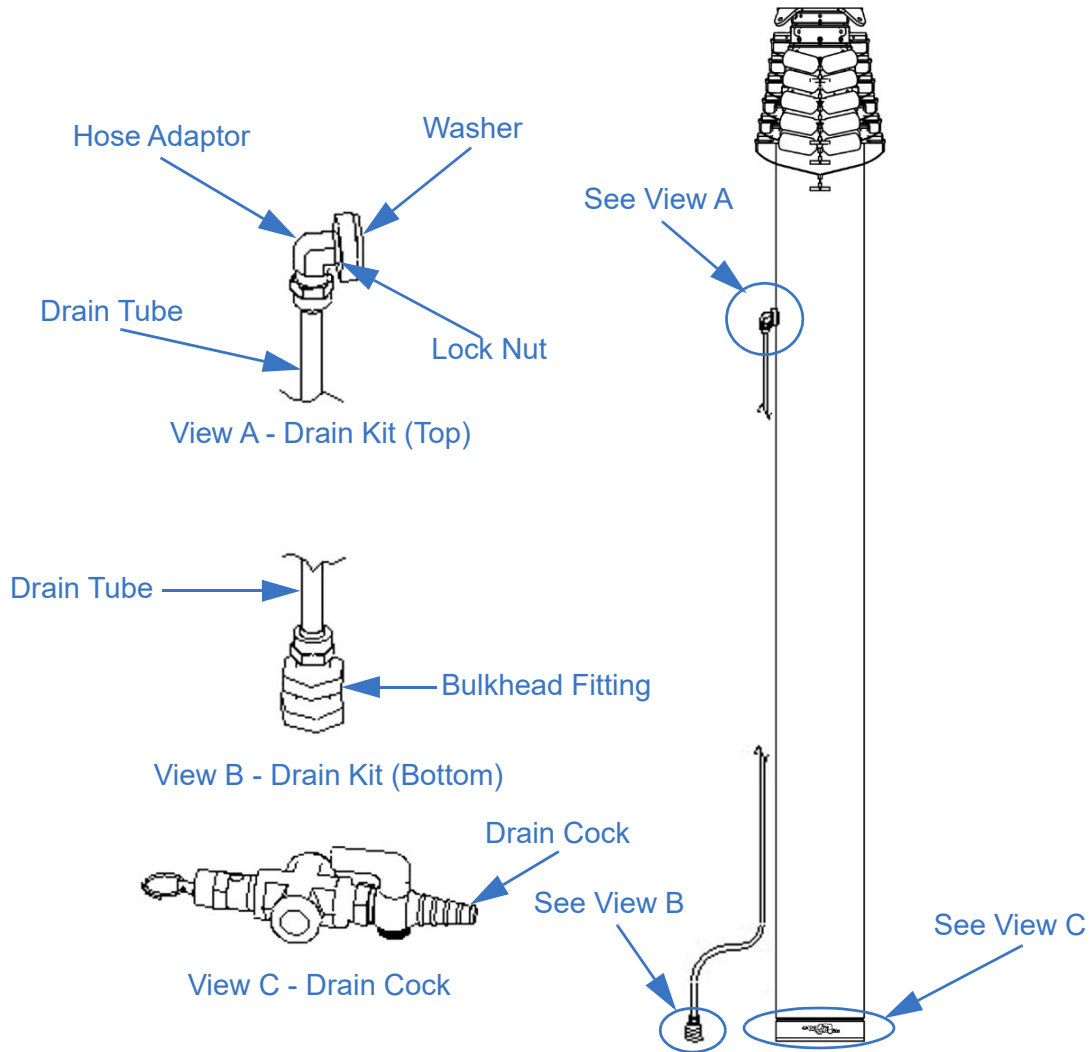

Figure 5-29 Ultra Heavy Duty Drain Kit Installation
2. Fasten the hose adaptor to the drain hole (Figure 5-29). Apply PTFE Tape to all threaded joints. Turn the hose adaptor in ONLY 1 ½ to 2 times after initial engagement of the threads. Turning further will damage the mast. Tighten the locknut to secure the hose adaptor in place. Overtightening could cause the hose adaptor to contact the moving intermediate tube.
4. Fasten the bulkhead fitting (Figure 5-29) to the hole.
5. Attach the polyethylene tube to the hose adaptor and the bulkhead fitting (Figure 5-29). As necessary, the polyethylene tube may be cut shorter to fit the customer-specific application. Apply PTFE Tape to all threaded joints.